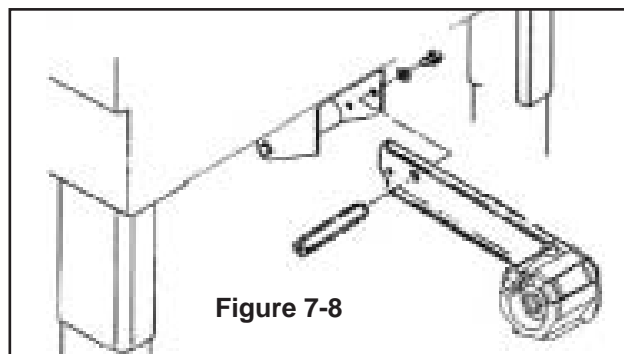

Figure 7-8
- 4 - Install and secure tape drum bracket assembly on the entry end of the lower frame (as shown in **Figure 7-8**).